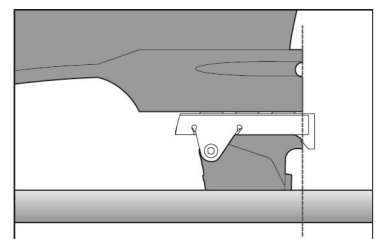

FIGURE 1.
- 2 Locate heel per Figure 1, positioned such that the rear of the boot heel is vertically aligned with rear of heel base. (15mm forward or back of this position is also acceptable.) *Note: this allows the tour throw to be engaged under the heel base when not in use.*
- 6 Center-punch the two (2) heel mounting holes.
- 7 Mount the heel to the ski with the two (2) 16.5mm mounting screws provided. Drill and glue screw holes as recommended by the ski manufacturer. Generally, a 3.5mm (9/64in) drill bit (or for metal top sheet skis, a 4.1mm (5/32in) drill bit) works well. Drill to a depth of at least 9mm (11/32in). Install screws using a #3 Posi-Drive screwdriver. Tap metal topsheets for M5.5 screws.